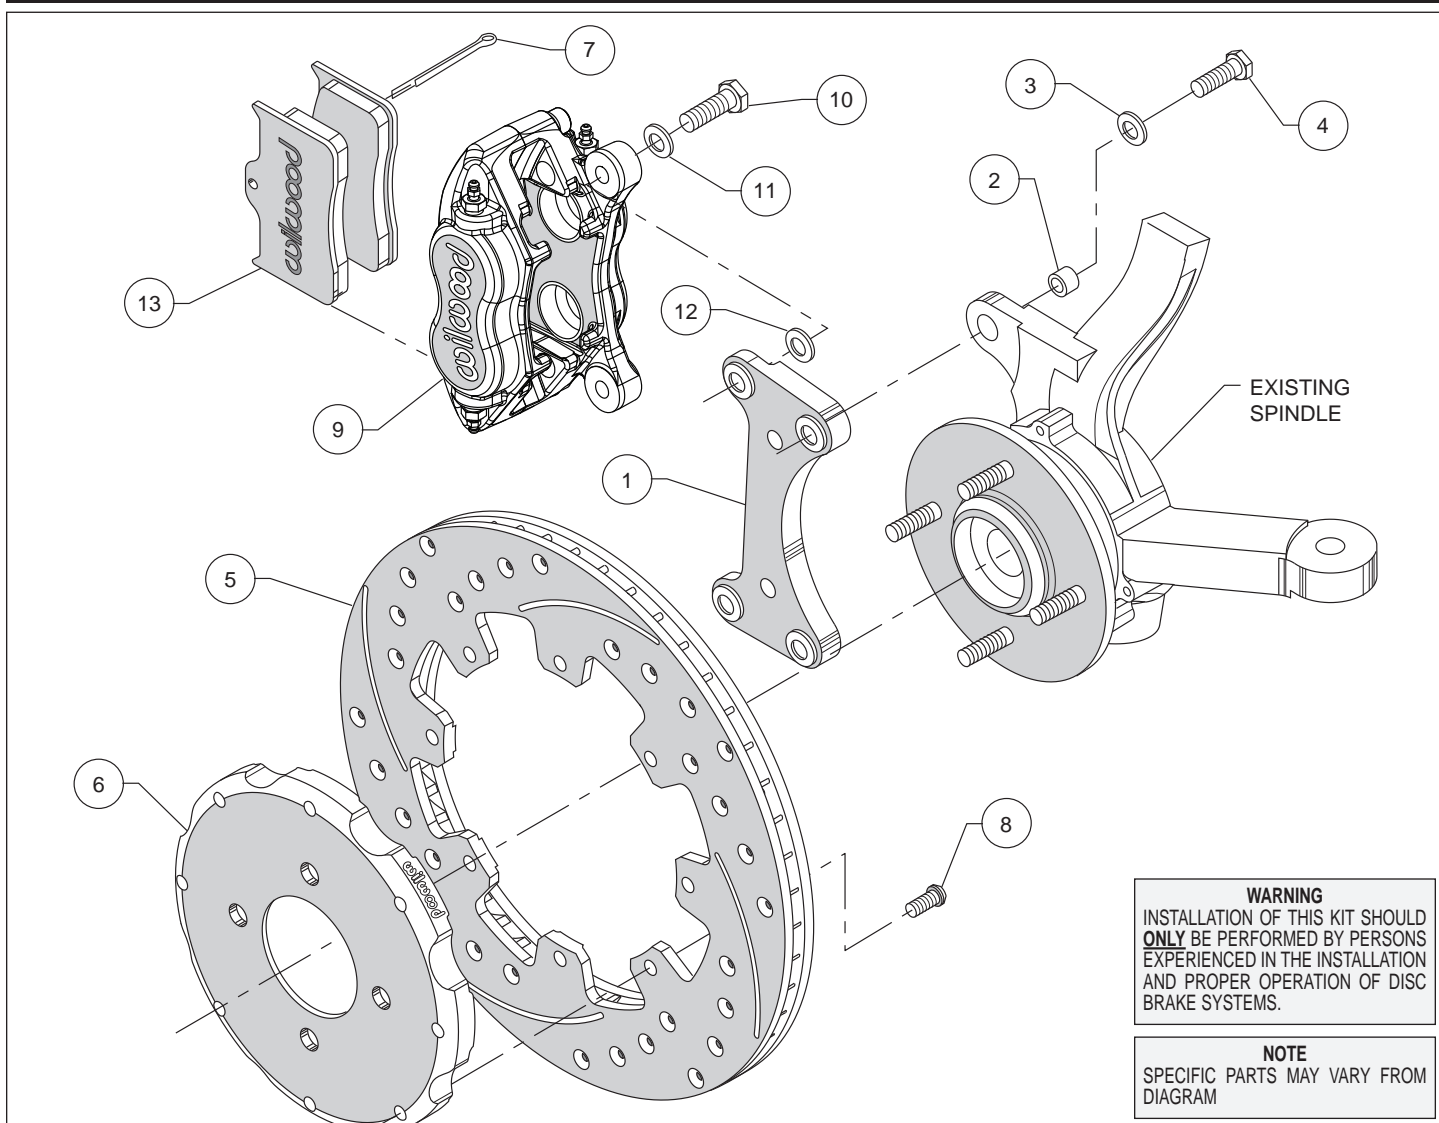
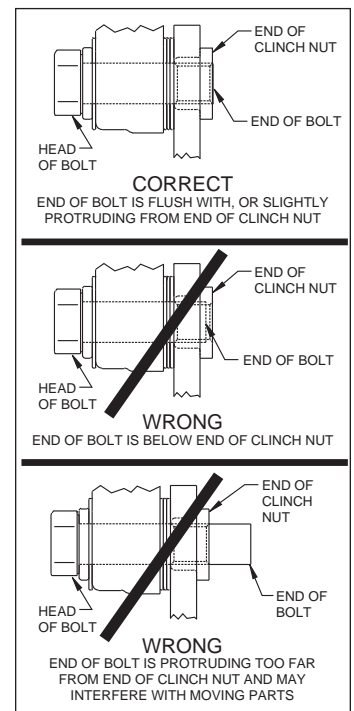

Figure 1. Typical Installation Configuration
Figure 3. Clinch Nut Engagement Diagram
**Assembly Instructions** (numbers in parenthesis refer to the parts list and Figure 1 on the preceding pages): **CAUTION:** All mounting bolts must fully engage clinch nuts. Be sure to check that all bolts are either flush or protruding through flanged side of clinch nut after shimming, Figure 3.
- Insert one sleeve (2) into each hole of the spindle “ears”, Figure 1. Orient the caliper mount bracket (1) as shown in Figure 1, and install using bolts (4) and washers (3). Ensure that the flanged heads of the clinch nuts in the bracket are facing outboard, Figure 1. Temporarily tighten the mounting bolts. **NOTE:** The bracket must fit squarely against the mount bosses on the upright. Inspect for interference from casting irregularities, machining ridges, burrs, etc. Remove bolts one at a time, apply red *Loctite*® 271 to the threads and torque to 60 ft-lb.
- Orient the rotor (5) and the hat (6) as shown in Figure 1 and Photo 1. Attach rotor to hat using bolts (8). Using an alternating sequence, apply red *Loctite*® 271 to the threads, and torque to 25 ft-lbs.
- **NOTE:** Please reference the caution statement at the beginning of the assembly instructions. Mount the caliper (9) onto the caliper mounting bracket (1) using bolts (10) and washers (11), as shown in Figure 1. Initially place one .035" thick shim (12) on each bolt between the caliper and the bracket, Photo 2. Temporarily tighten the mounting bolts and view the rotor (5) through the top opening of the caliper. The rotor should be centered in the caliper, Photo 3. If not, adjust by adding or subtracting shims between the bracket and the caliper. Always use the same amount of shims on each of the two mounting bolts. **NOTE:** The end of each bolt must be flush with or slightly protruding from the head of the clinch nut, as shown in Figure 3. If necessary place spare shims between washer (11) and caliper mounting ear to achieve the proper clinch nut engagement. Once the caliper alignment and clinch nut engagement are correct, remove the bolts one at a time, apply red *Loctite*® 271 to bolt threads, and torque to 40 ft-lb.